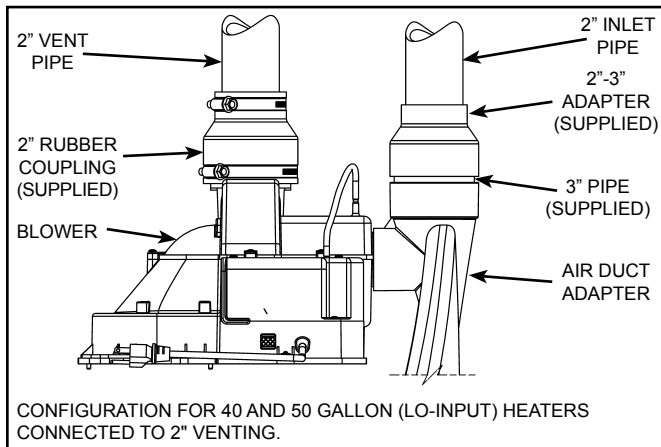
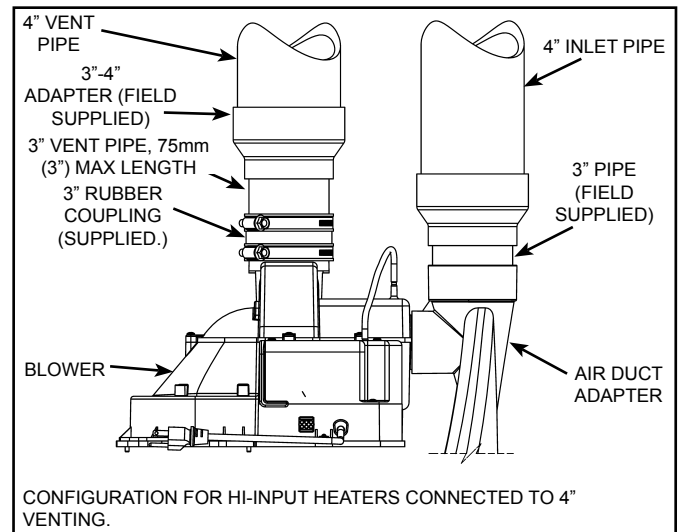

Figure 30
Figure 34
4. Make sure that the plastic tubing is still attached from the air pressure switch to the port on the blower motor housing. Make sure the plastic tubing is not folded anywhere between the pressure switch and the blower motor housing (see Figure 30 thru Figure 34).
Important: These connections must be properly seated and tightened to prevent the leakage of flue gases into the area. See Figure 30 thru Figure 34.